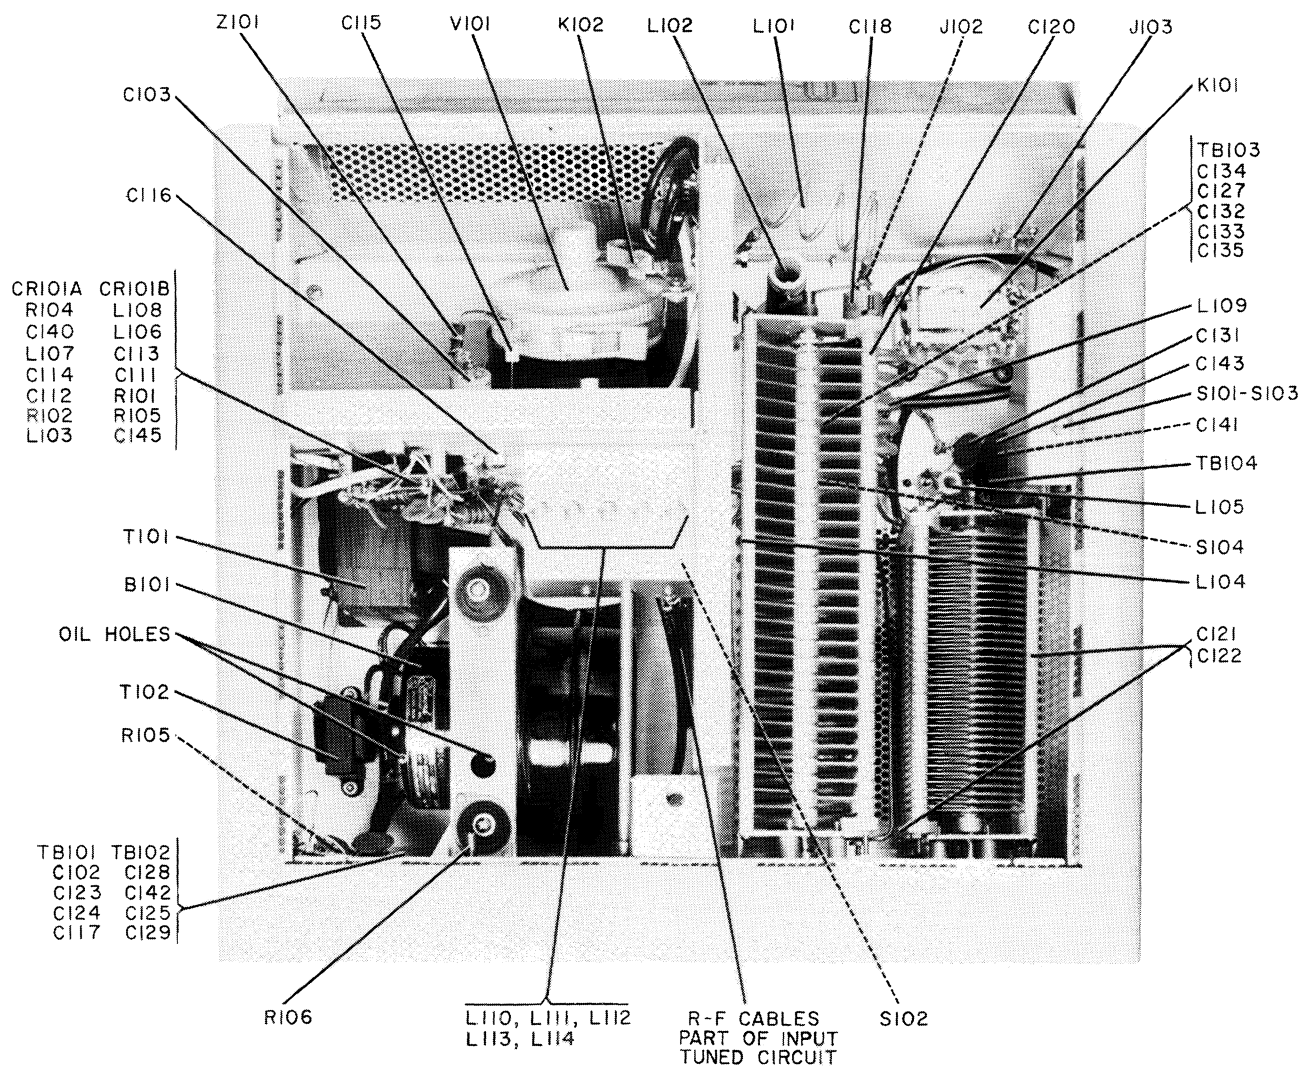

Figure 13. Power Amplifier Compartment, Parts Location
5.2 BLOWER LUBRICATION. Every 1000 hours of operation (approximately 6 months of normal use), lubricate the blower motor bearings with a few drops of lightweight oil. Sewing-machine oil is adequate. Do not overlubricate. Figure 13 shows the oil-hole locations.
Refer to figure 13 which shows the power amplifier tube properly installed and the proper operating position of K102. Inspect the r-f compartment to be sure there are no short circuits, and close the top cover.